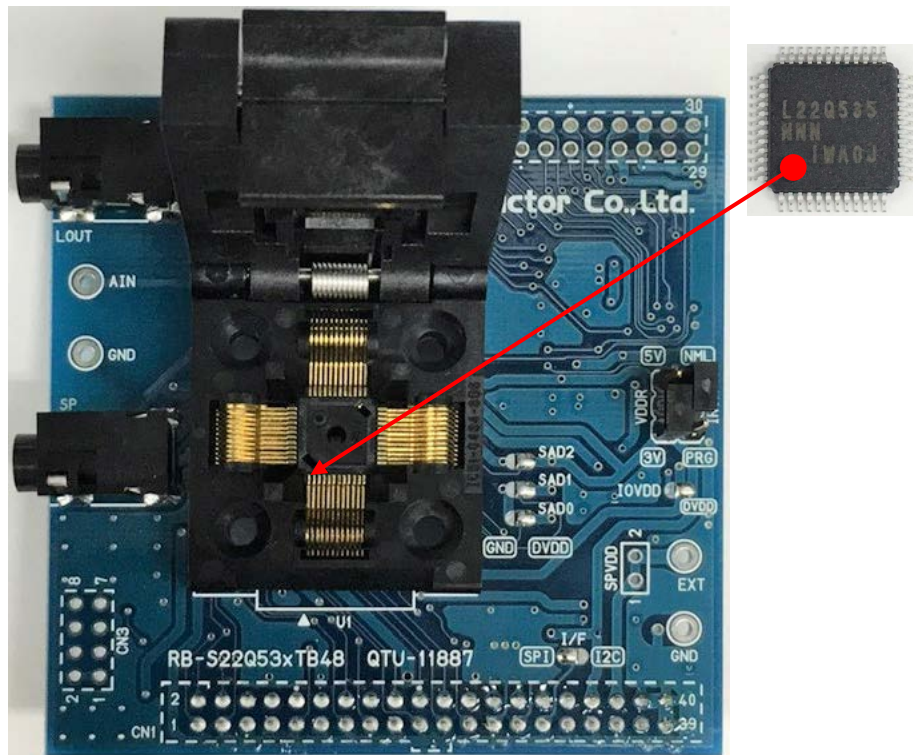

Figure 1 Outline Diagram
- Turn off the power when loading devices into the RB-S22Q53xTB48. Be sure to orient the device correctly. Pin 1 direction is toward the lower left side when the lid is opened. The Figure 1 shows the setting directions of devices.